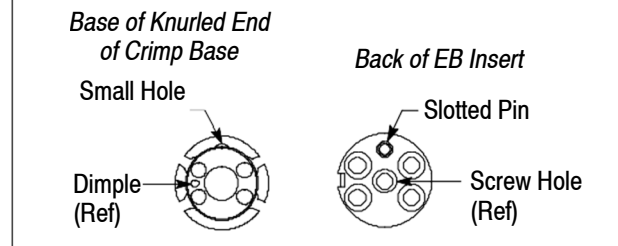

Figure 10
3. Align the end of the ferrule assembly with the appropriate channel cavity of the EB insert and insert the ferrule assembly into the channel cavity until the O-ring is against the channel cavity. See Figure 10, Detail A. To avoid damage to the fiber, DO NOT push the cable to install the ferrule assembly
4. Using the ferrule insertion tool, push the spring until the ferrule assembly bottoms in the channel cavity (the O-ring will be inside of the cavity, and the spring will protrude slightly from the cavity). See Figure 10, Detail A.
5. Slide the crimp base over the cables (and strength members) until it is against the springs (in the EB insert) — make sure that the small hole on the flange at the base of the knurled end of the crimp base aligns with the slotted pin at the back of the EB insert. Refer to Figure 10, Detail B.